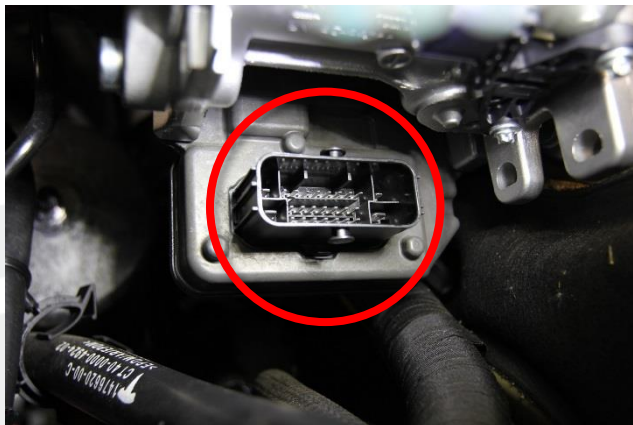

Figure 13
1. Inspect the connector at the electromechanical brake booster assembly (Figure 13):